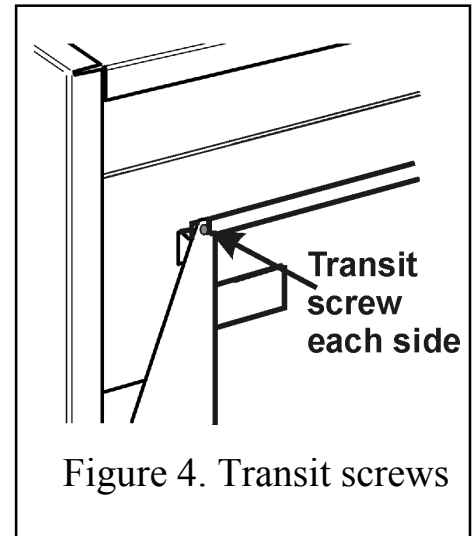

Figure 4. Transit screws
5.3.2 Remove the two transit screws from near the top of the back panel wings. See figure 4.